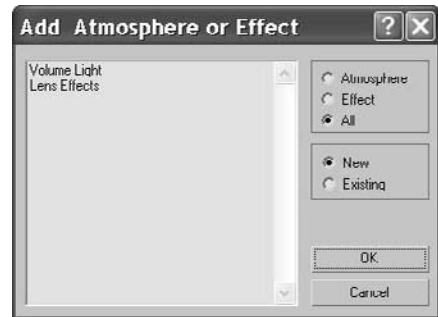

Figure 10.83
1. Go to the Atmosphere and Effects rollout for the light. Select Add from the rollout to open the Add Atmosphere or Effect window, which is shown in Figure 10.83.